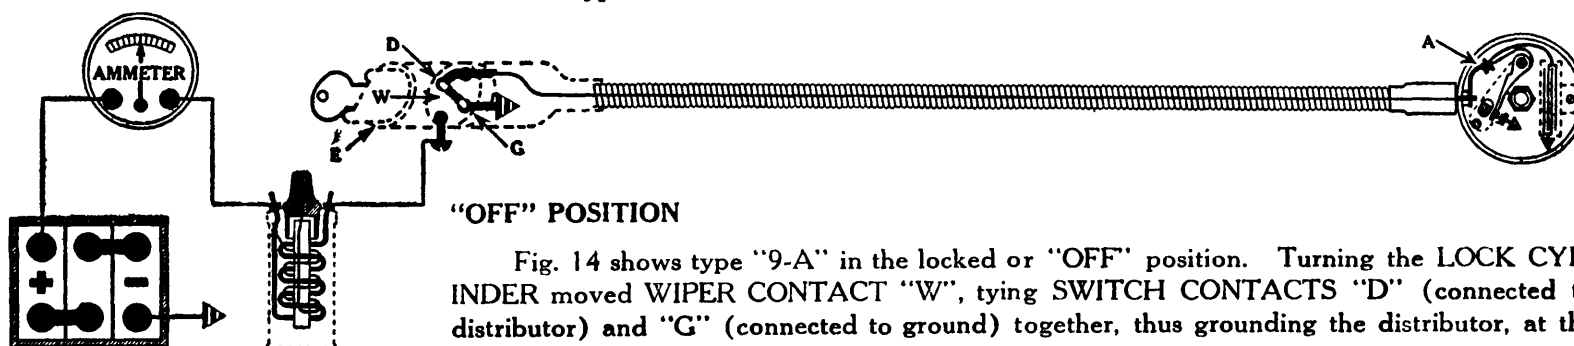

FIG. 14.
Fig. 14 shows type "9-A" in the locked or "OFF" position. Turning the LOCK CYLINDER moved WIPER CONTACT "W", tying SWITCH CONTACTS "D" (connected to distributor) and "G" (connected to ground) together, thus grounding the distributor, at the same time breaking the ignition circuit.
3. Place one TEST POINT on the primary terminal inside the distributor ("A", Fig. 14), and the other TEST POINT on the LOCK TERMINAL. With the switch unlocked, the lamp should burn. With the switch locked, the lamp should not burn.
4. Place one TEST POINT on the primary terminal inside the distributor ("A", Fig. 14) and the other TEST POINT on the LOCK CASING ("E", Fig. 14). With the switch locked, the lamp should burn. With the switch unlocked the lamp should not burn. If the lamp burns either there is a ground in the "Electrolock" or the distributor condenser is shorted or grounded. It will be necessary to disconnect condenser from distributor to determine whether the trouble is in the "Electrolock" or condenser.